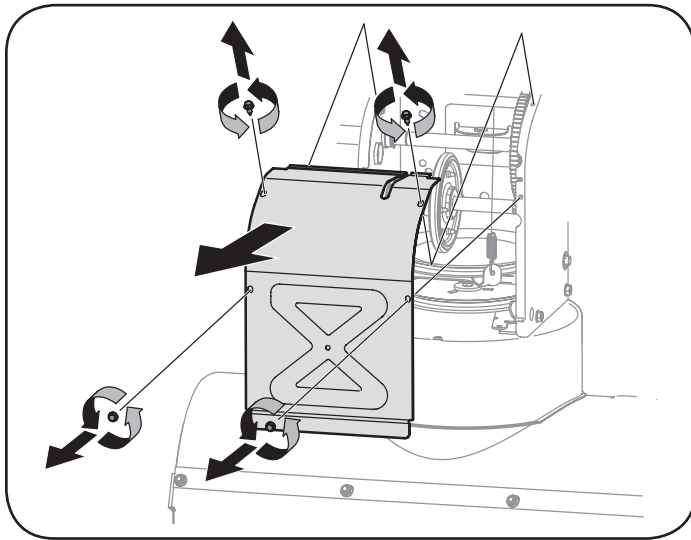

Figure 29
5. Remove the frame cover from the underside of the snow thrower by removing four self-tapping screws which secure it. See Figure 29.
3. Remove the frame cover from the underside of the snow thrower by removing four self-tapping screws which secure it. Refer to Figure 29.